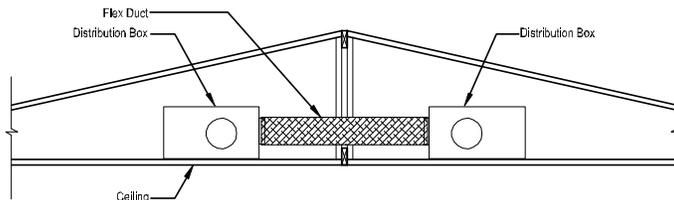

Figure 57. Duct crossover located in the roof cavity
2. **Join ducts.** Using the provided flexible duct, join the distribution boxes in each section of the home as shown in **Figure 57**, cutting off any extra duct length to keep the duct as straight as possible. The duct is connected to one side of the home.